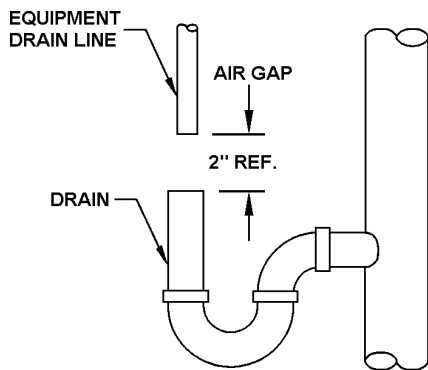

Figure 4. DRAIN
Step 6. Position DRAIN LINE over drain and secure firmly. To prevent back-siphoning of sewer water, provide an air gap of at least 2 inches or 2 pipe diameters between end of drain hose and drain (See FIGURE 4). Do not raise DRAIN LINE more than 10 ft. above floor.